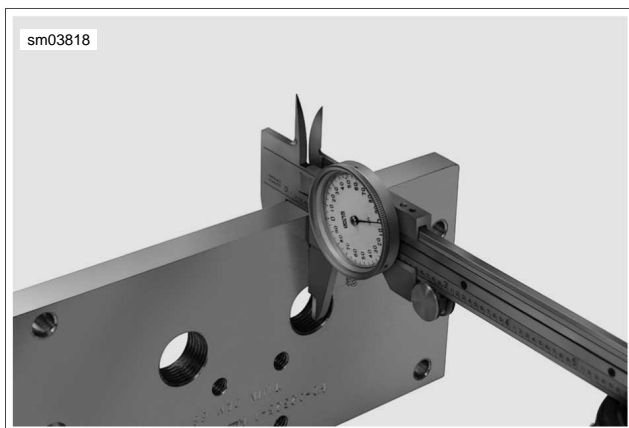

Figure 3-123. Measure Thickness of Support Plate
- a. See Figure 3-123. Using a dial caliper, measure thickness of support plate.